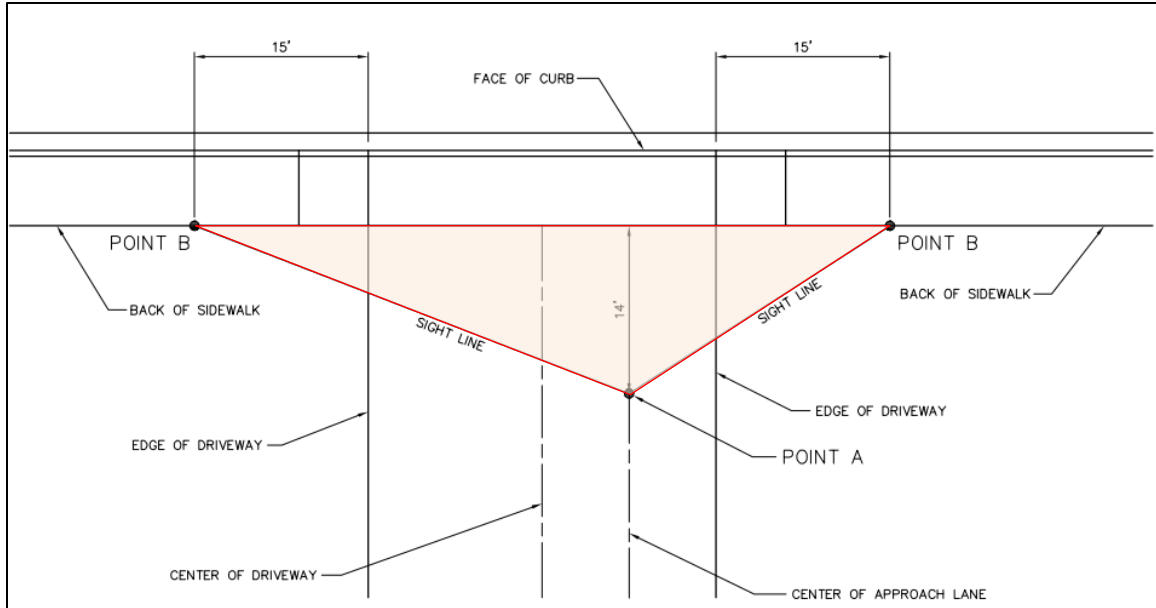

Figure 4. Pedestrian sight distance.
3. How to Establish Sight Distance Triangles– Sight distance triangles for various types of intersections and driveways are shown in **Figures 1, 2, 3a and 3b** on pages 5 through 7. In these figures, the sight distance triangles are represented by the shaded areas. Point A, or driver’s decision point, represents the location of the driver; Point B is located on the major road at a specific distance (to the right and to the left) from the driver. This distance, referred to as the required sight distance, represents how far (on the major road) the driver should be able to see so as to safely exit a minor road or driveway or to make a right turn on red at a signalized intersection. In Figure 4 on page 8 the driver/pedestrian sight distance triangle also referred to as “pedestrian/driver inter-visibility area” is represented by the shaded area. This is the area that must be kept free of obstructions thus drivers exiting a driveway can see approaching pedestrians on the sidewalk and vice versa. Figure 4 does not apply to entrance to buildings and/or parking lots located inside buildings. **Table 2** on page 2 shows (in the right most columns) the sight distances values that need to be used to determine the sight distance triangle at various types of intersections and driveways.
Additionally, drivers emerging from driveways must be able to see approaching pedestrians on the sidewalk and vice versa. In Figure 4 below, the shaded areas on each side of the driveway show the pedestrian/vehicle sight distance triangle or pedestrian/vehicle inter-visibility area which must be kept free of obstructions per Section 4 of these guidelines. The driver's point of view (point A) is located at the center of the driveway approach lane measured 14 feet from the back of the sidewalk. The pedestrian/vehicle sight distance triangles must extend to a point 15 feet from the edge of the driveway, on either side of the driveway (Point B).
Drivers exiting parking garages shall have clear sight distance on both sides of the exiting lane, as shown in Figure 4. Sight distance shall be measured 14 feet from the back of sidewalk or alley, if there is no sidewalk.